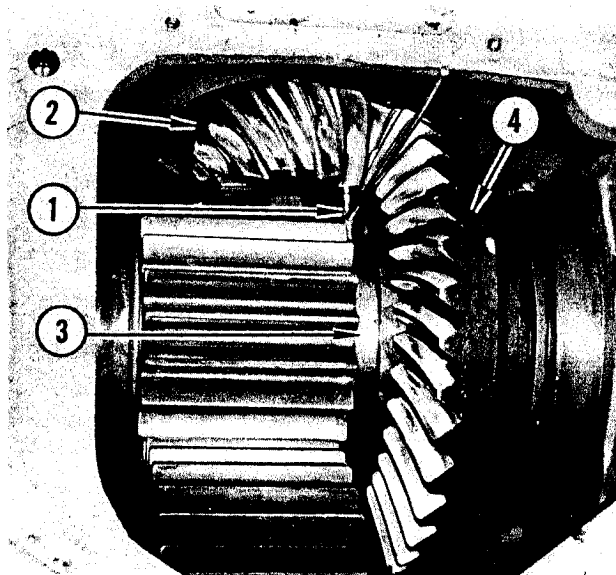

FIGURE 93. OUTPUT PINION
8. Install bearing cage on lower shaft without shims. Do not tighten stud nuts. With parking brake installed, tighten locknut to a torque of 550 to 575 ft. lbs. Refer to Figure 93. In-